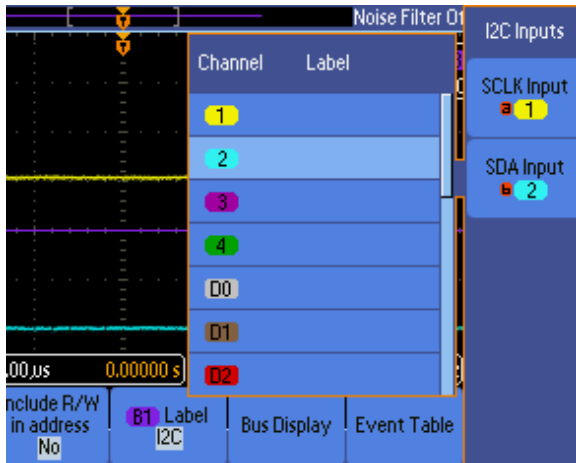

Figure 9: Tek channel selection
9. Press the second softkey from the left labeled “Define Inputs”. This brings up the screen shown in Fig. 9. The current settings for which channel is clock and which is data is shown at the right side of the screen. Use the (a) and (b) Multipurpose knobs to change these to match how you connected the probes to the hardware under test.